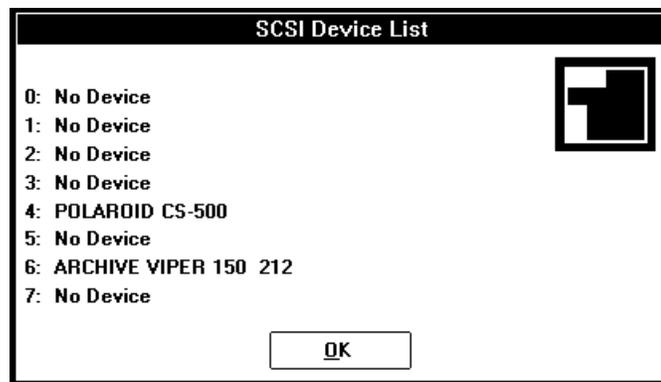

Figure 6-7. Typical SCSI Device List
3. Select Printers from the Control Panel, then CI-5000 on EPL, then Setup, then About, and SCSI Device List to display a SCSI device list (Figure 6-7).
3. Select More from the Control Panel, then select Devices to display a SCSI device list (Figure 6-7).